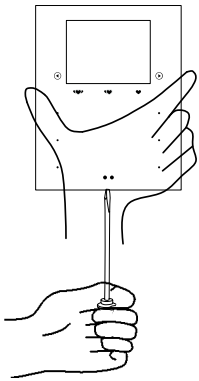

Figure 8 / 图 8
- Disassembly (See Figure 8):** Insert the panel gap with a slotted screwdriver, and pry up the panel gently and hold the edge panel. Then the panel can be taken off.
- 拆卸面板 (见图 8):** 用一字螺丝批插入面板缺口, 轻撬面板, 手握面板边缘, 即可取下面板。